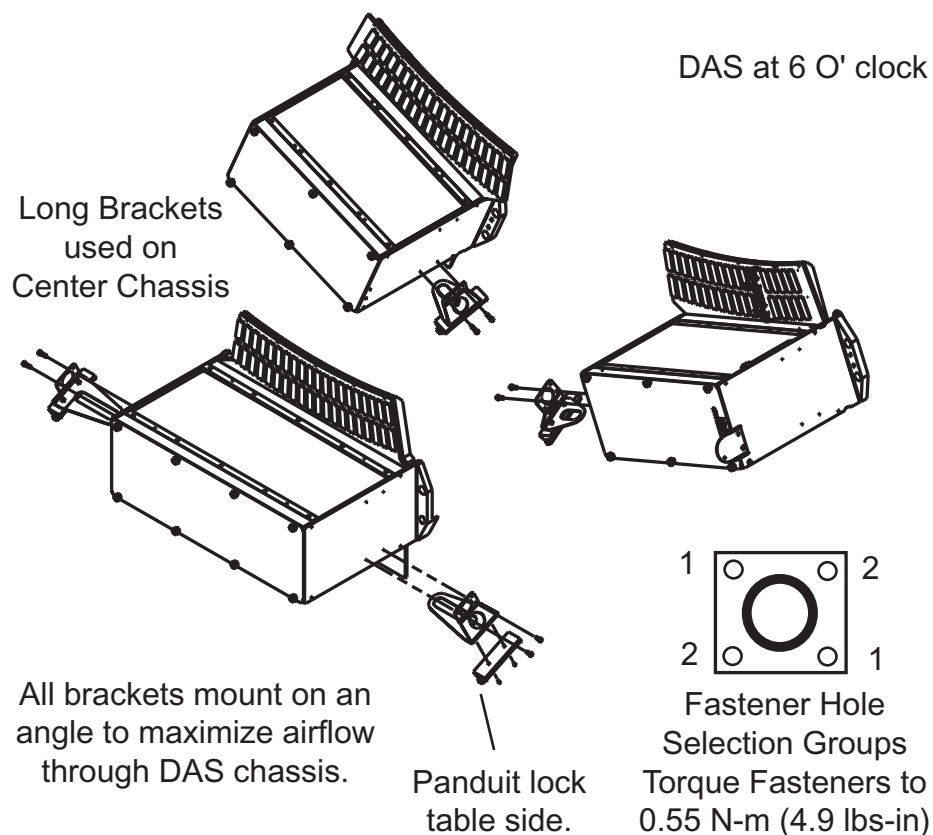

Figure 2 - Bracket mounting detail
- 5.) Mount long brackets to DAS center chassis. See Figure 2.